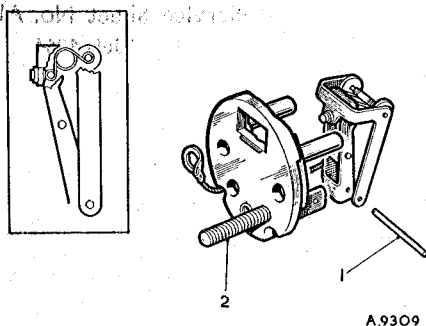

Fig. 3. Fitting the rocker assembly to the pedestal. (Inset) the correct position of the centre toggle spring
1. Invert the pedestal and fit the rocker assembly to it by pushing the steel pin (1) (Fig. 3) through the small holes in the rockers and pedestal struts. Then position the centre toggle so that, with the inner rocker spindle in tension against the rear of the contact point, the centre toggle spring is above the spindle on which the white rollers run (see Fig. 3). This positioning is important to obtain the correct 'throw over' action; it is also essential that the rockers are perfectly free to swing on the pivot